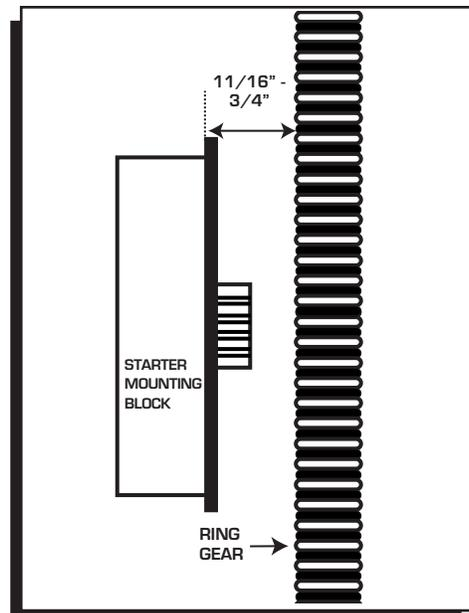

Figure 2 Checking Pinion Clearance.
2. Before mounting the starter, measure the distance from the front of the ring gear (engine side) to the starter mounting surface. It should be $11/16"$ - $3/4"$ (Figure 2).